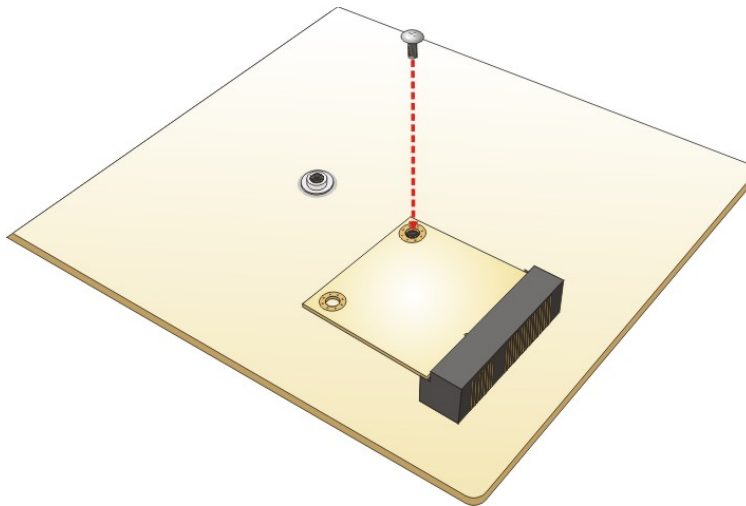

Figure 4-4: Securing the Half-size PCIe Mini Card
Step 4: Secure the half-size PCIe Mini card. Secure the half-size PCIe Mini card with the retention screw previously removed (Figure 4-4).